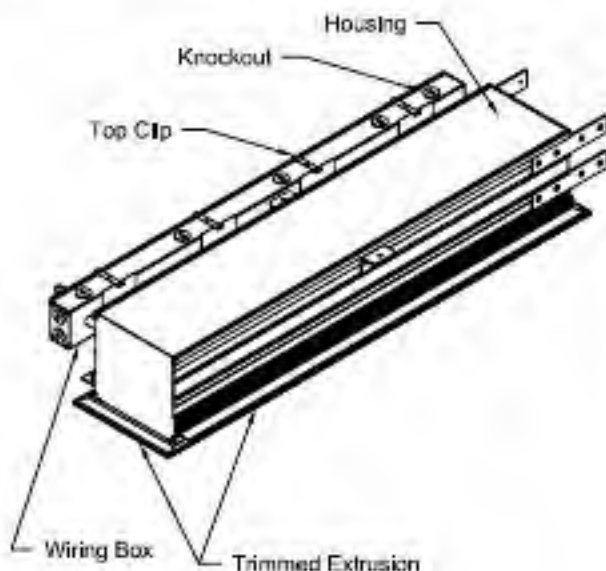

Figure 1
1. Locate Trimmed Extrusion on all Housings. See Fig. 1.
1. Hang Housing(s) from Hanger Brackets located on sides of Fixture(s) using 1/4-20 Screw. See Fig. 1 and Fig. 3.
2. Connect Wiring Box to Electrical Service using Knockouts located at each end of Wiring Box and Knockout along top of Wiring Box as needed. See Fig. 1.
3. To remove Rear Access Panel(s) for inspection, lift Clips at Top and Bottom of Wiring Box. See Fig. 1 & Fig. 3.